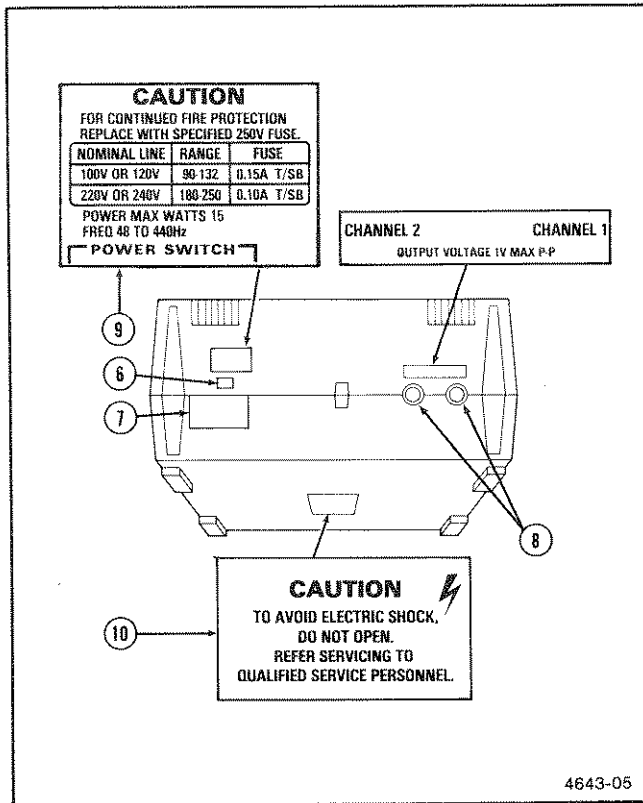

Figure 3-2. Rear- and bottom-panel controls, connectors, and labels.
Refer to Figure 3-2 for the location of items 6 through 9.
Refer to Figure 3-2 for the location of item 10.
- ⑩ **CAUTION** label warns operators not to open the A6902A case.